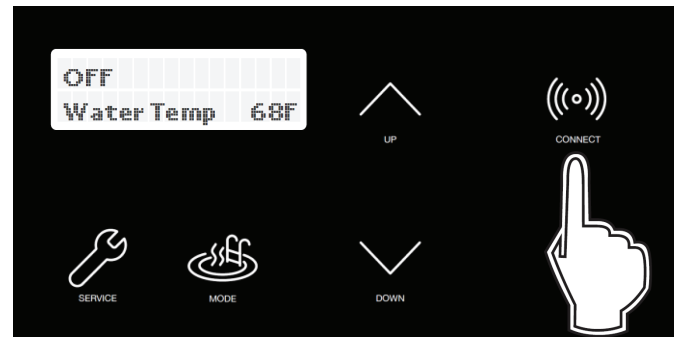

Figure 79. CONNECT Key
1. Stand near the display of the Crosswind V unit. Press the CONNECT key. See **Figure 79**.